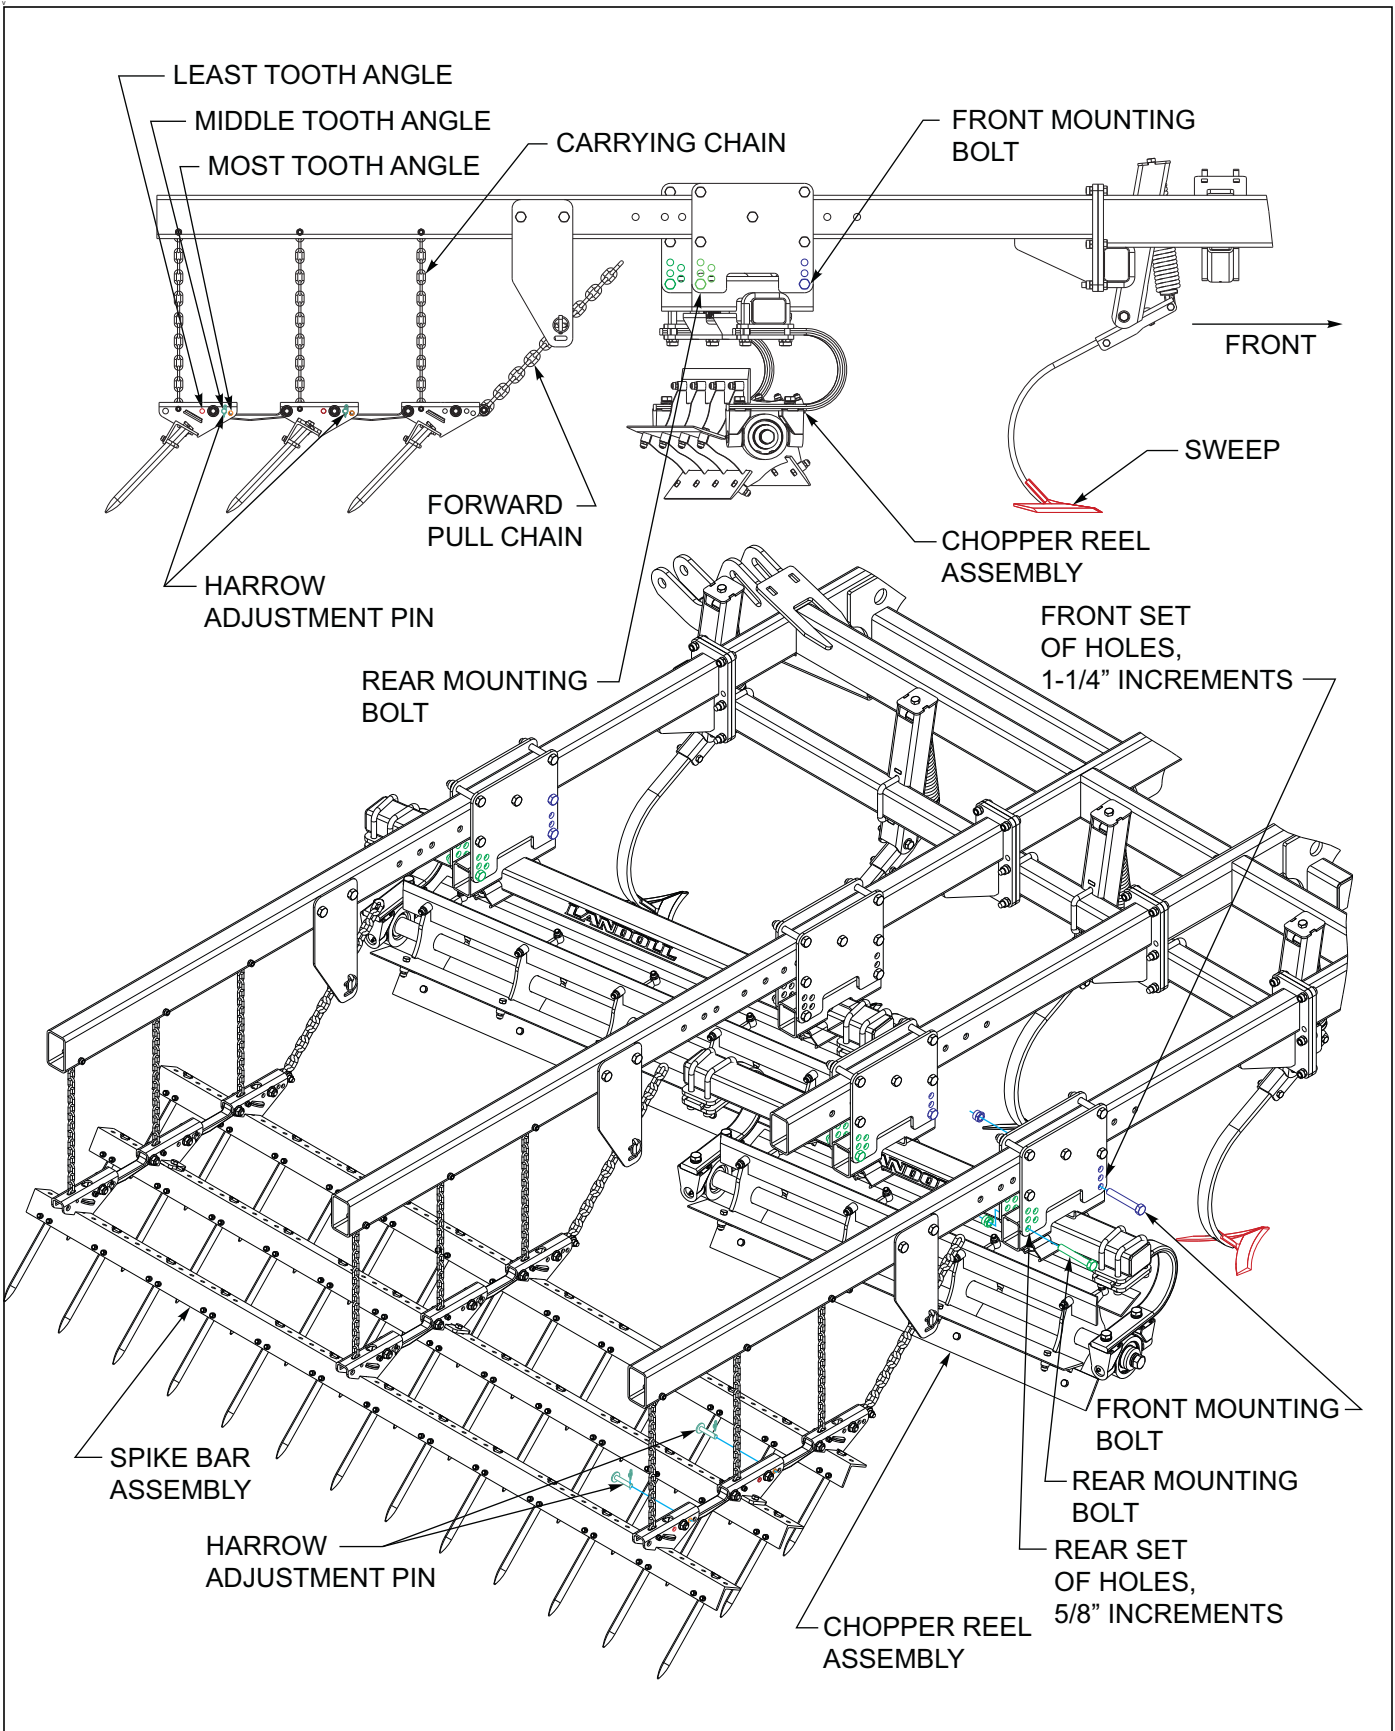

Figure 4-29: Chopper & 3 Row Spike Adjustments
2. Reel height is adjustable from 1" above the bottom of the sweeps to 3-1/2" above the sweep See Figure 4-29.. Initially the reels are set in the lowest position, which is 1" above the sweeps. The front and rear set of holes adjust in 1-1/4 increments, while the intermediate holes at the rear are in 5/8" increments. Keep the reel level as possible when making adjustments. To adjust the reel height, place a block under the reel to prevent the reel from falling. Lower the finisholl till the bottom two blades of the reel rest on the block. Do not try to support the reel on a single blade to prevent rolling. Loosen the front and rear reel mounting bolts for both reel harrow arms. Remove either the front or rear mounting bolts, but not both. Rotate the reel to the next higher or lower position and then reinstall the bolts. Adjust the opposite end of the reel mount as needed. Retighten the mounting bolts when finished. All reels should be set the same height across the machine.
10. For the most aggressive spike tooth action, install the harrow adjustment pin in the forward mounting hole over each bar clamp for each spike bar See **Figure 4-29**. This will position the spike teeth to be in the most vertical position. In wetter or conditions with some residue, lower the spike tooth angle by positioning the harrow adjustment pin in the middle or rear hole. This will allow the teeth to lay flatter and shed more residue.